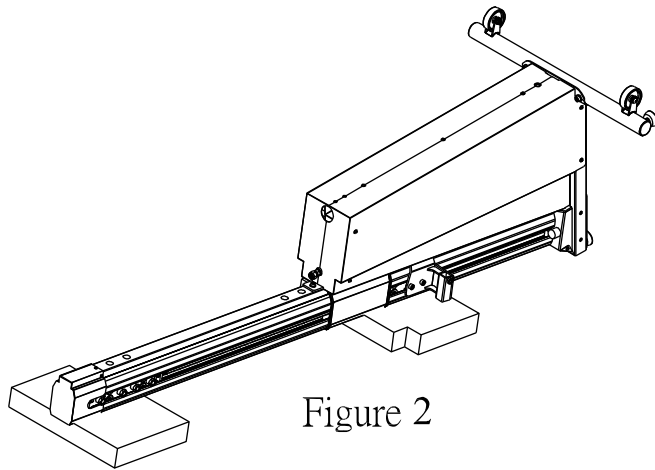
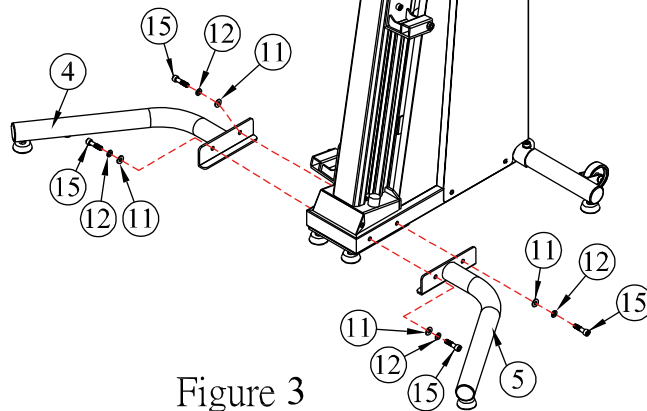

Figure 2
Figure 3
- (A) Stand the machine up (as figure 3) by moving it from the ground (as Figure 2)
- (B) Assemble front stabilizer assembly-Left (#4) and front stabilizer assembly-Right (#5) with flat washer (#11) ,spring washer (#12) and button head allen bolt - M10x40L (#15) as seen in Figure 3.